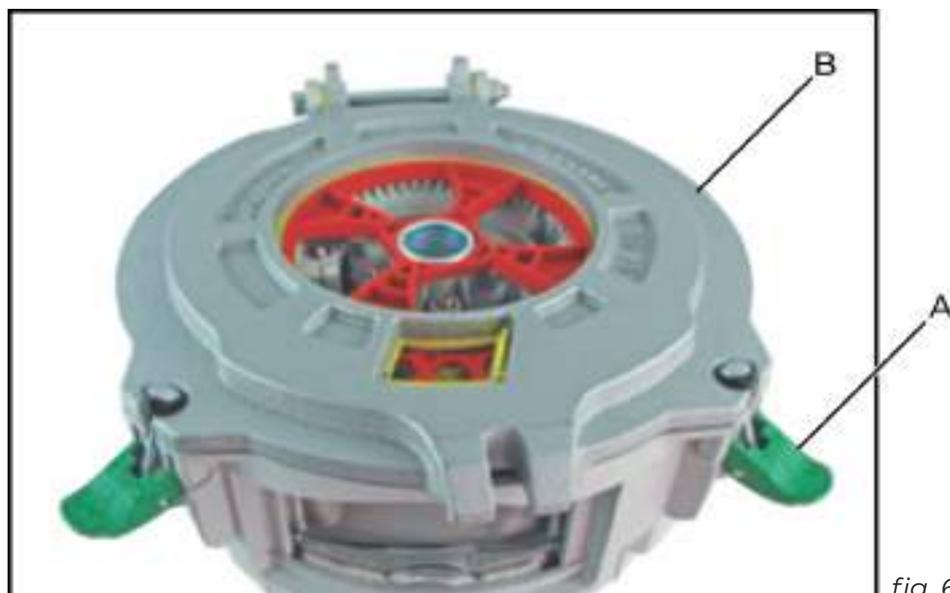

fig. 60
**5-** Feche a contra base (B) (fig. 60), e aperte as travas (A).